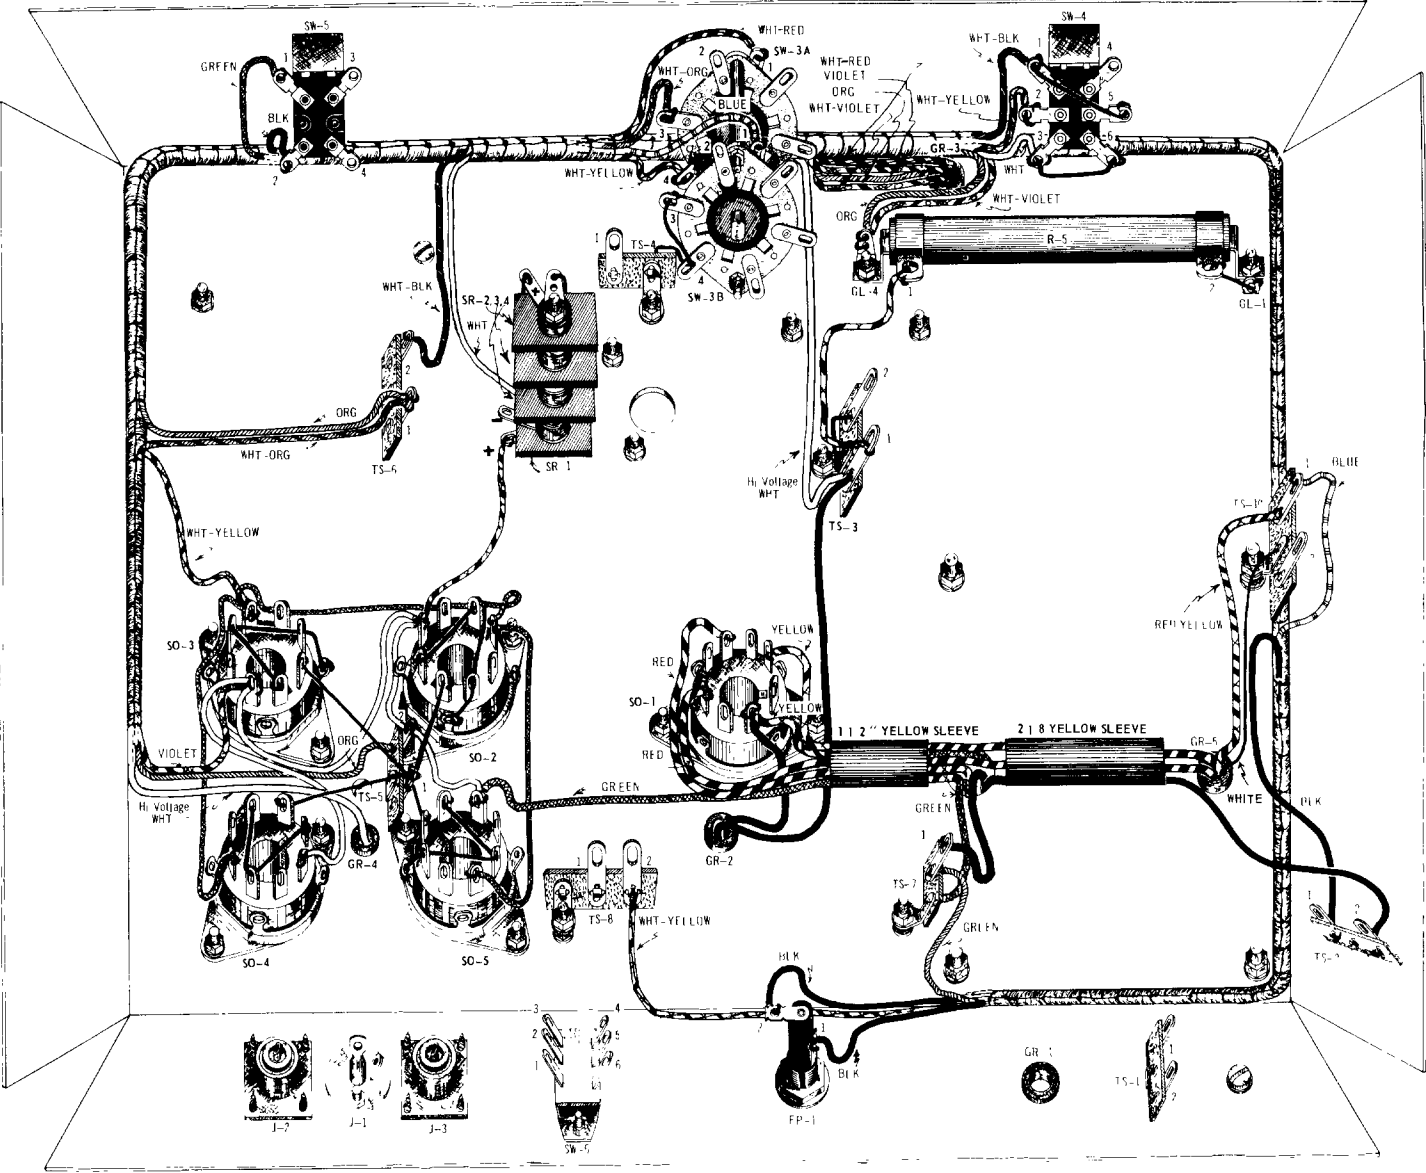
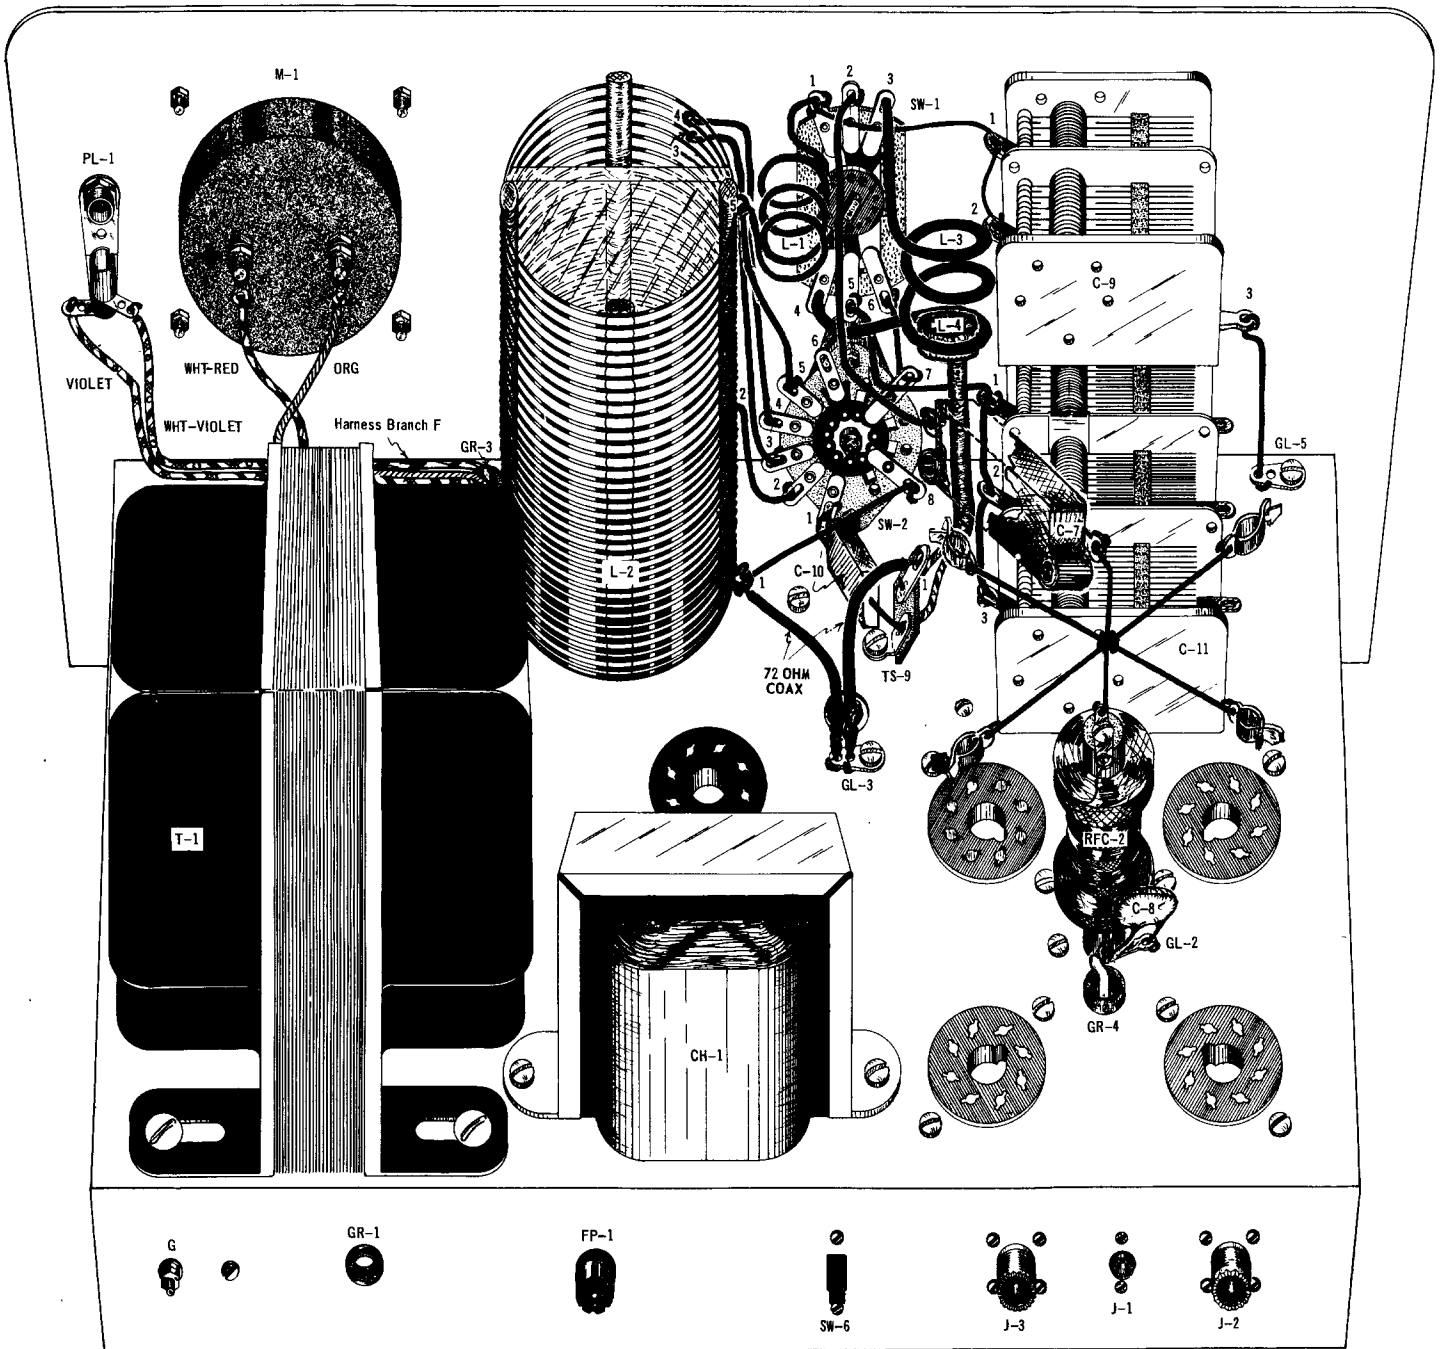

Figure 15. Wiring Steps 1 Through 67.
Figure 19. Wiring Steps 101 Through 133.
- 1. Trim, strip and connect one of the black leads of choke CH-1 (emerging from grommet GR-2) to pin 2 of socket SO-1. (NS)
- 2. Trim, strip and connect the other black lead of CH-1 to lug 1 of tie strip TS-3. (NS)
- 3. Select one of the green leads of transformer T-1 coming through the 5/8" chassis hole. Trim, strip and connect this lead to the grounding lug hole of tie strip TS-7. (S)
- 4. Trim, strip and connect one of the black leads of T-1 to lug 1 of tie strip TS-7. (NS)
- 6. Gather the two red leads and the remaining black lead of T-1. Slip a 2-1/8" length of yellow sleeving over these leads as per Figure 15.
- 7. Gather both yellow leads, the remaining green lead and the two red leads mentioned in step 6 (all are leads of transformer T-1). Slip a 1-1/2" length of yellow sleeving over these leads as per Figure 15.
- 8. Trim, strip and connect one of the yellow leads of T-1 to pin 2 of socket SO-1. (S)
- 9. Trim, strip and connect the other yellow lead of T-1 to pin 8 of SO-1. (S).
- 10. Connect one red lead of T-1 to pin 6 of SO-1. (S)
- 11. Trim, strip and connect the other red lead of T-1 to pin 4 of SO-1. (S)
- 12. Trim, strip and connect the remaining green lead of T-1 to pin 2 of socket SO-5. (NS)
- 15. Lay the harness in the chassis with the long continuous side along the front apron of the chassis. Install the harness in place as per Figure 15. Guide branches G, H and I under switch SW-3. Carefully slide branches E and F under switch SW-3. At the same time guide branches G, H and I around the chassis under tie strips TS-1 and TS-2.
- 17. Trim, strip and connect the white/yellow lead of branch I to lug 2 of tie strip TS-8. (NS)
- 18. Trim, strip and connect one of the black leads of branch H to lug 1 of the fuse retainer post FP-1. (S)
- 19. Trim, strip and connect the other black lead of branch H to lug 2 of FP-1. (S)
- 21. Trim, strip and connect the remaining black lead of transformer T-1 to lug 2 of tie strip TS-2. (NS)
- 34. Trim, strip and connect the blue lead of branch D to lug 1, rear wafer (SW-3B), of SW-3. (NS)
- 35. Trim, strip and connect the white lead of branch C to the positive (+) lug of selenium rectifier SR-4. (NS)
- 36. Trim, strip and connect the white/black lead of branch C to lug 2 of tie strip TS-6. (NS)
- 37. Trim, strip and connect the heavy green lead of branch C to lug 1 of switch SW-5. (S)
- 38. Trim, strip and connect the black lead of branch C to lug 2 of SW-5. (S)
- 39. Trim, strip and connect the orange lead of branch B to lug 1 of tie strip TS-6. (NS)
- 40. Trim, strip and connect the white/orange lead of branch B to lug 1 of TS-6. (NS)
- 41. Trim, strip and connect the white/yellow lead of branch B to pin 5 of socket SO-3. (NS)
- 42. Trim, strip and connect the violet lead of branch A to pin 2 of SO-3. (NS)
- 43. Trim, strip and connect the orange lead of branch A to lug 2 of tie strip TS-5. (NS)
- 44. Route the heavy white lead of branch A to the right between sockets SO-3 and SO-4 and up through grommet GR-4. Trim, strip and connect the lead to the bottom lug of R.F. choke RFC-2. Refer to Figures 15 and 19.
- 45. Locate the white/violet and violet leads on the top side of the chassis. The leads emerge from grommet GR-3. (Harness branch E). See Figure 19.
- (c) Connect the white/violet lead to one terminal of pilot light assembly PI-1. (S)
- (d) Connect the violet lead to the other terminal of pilot light assembly PI-1. (S)